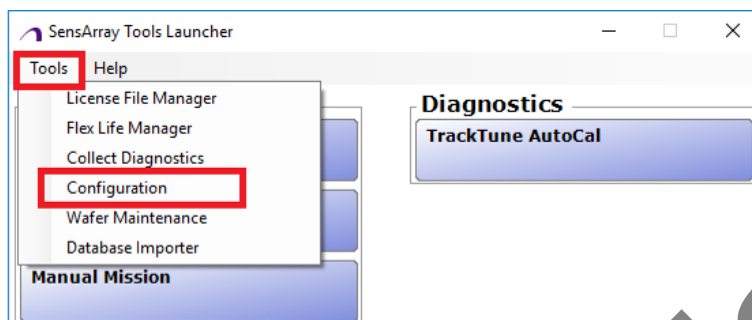

Figure 5-9 SAT launcher Window - Configuration
1. Click **Tools** on the **SensArray Tool** launcher menu bar and then click the **Configuration** option, as shown in Figure 5-9.